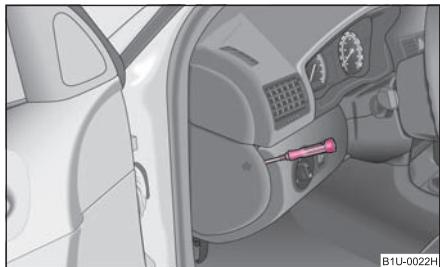

Fig. 169 Fuse cover: left side of the dash panel
- Use a screwdriver to take off the fuse cover on the side of the dash panel ⇒ fig. 169 or the fuse cover in the engine compartment ⇒ page 178.